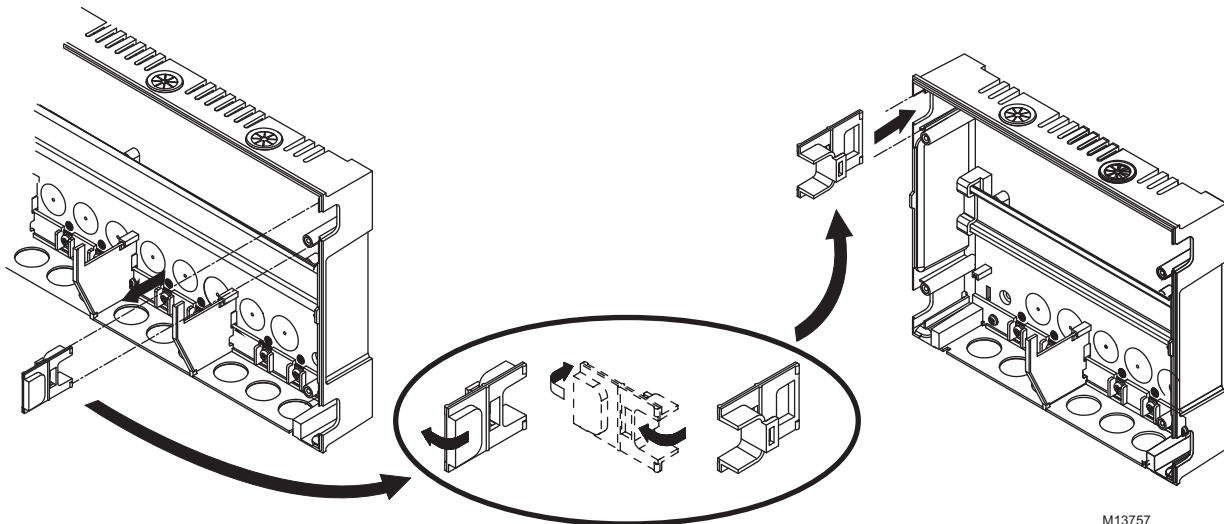

Fig. 3. Orientation of wire channel plugs for creating pass-through wire channel and for joining Main Control Panel to Expansion Zoning Panels.
1. Remove wire channel plugs from the Control Panel and any Expansion Panels (see Fig. 3).
3. Reverse wire channel plugs and re-insert them into their slot to form a wiring channel between the Main Control Panel and the Expansion Zoning Panel (see Fig. 3) and to connect the two panels together.